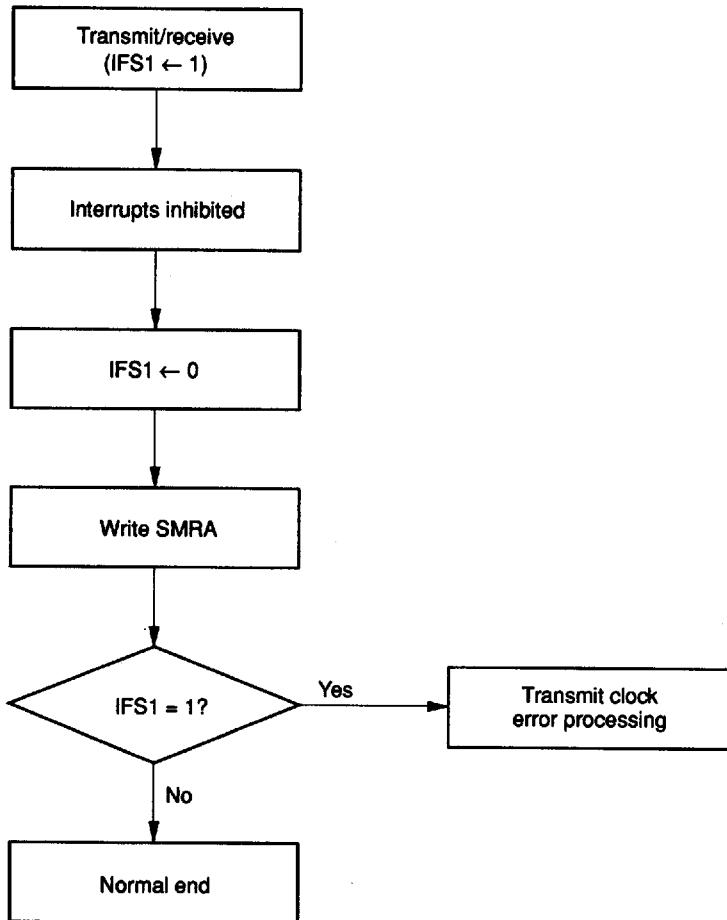

Figure 36 Transmit Clock Error Detection
**Transmit Clock Error Detection:** Serial interface 1 will malfunction if a spurious pulse caused by external noise conflicts with a normal transmit clock during transmission. A transmit clock error of this type can be detected as shown in figure 36.